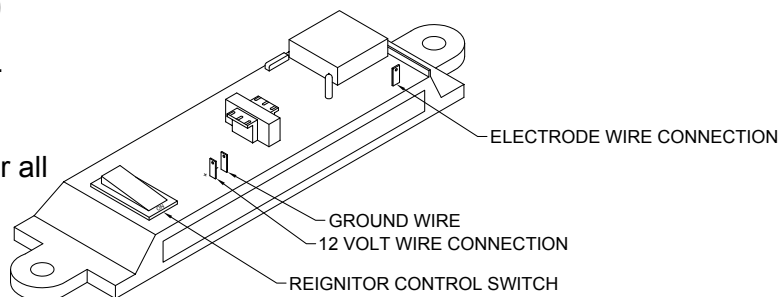

Figure 12
B. Make 12 volt D.C. connections to re-ignitor as illustrated in Figure 12.